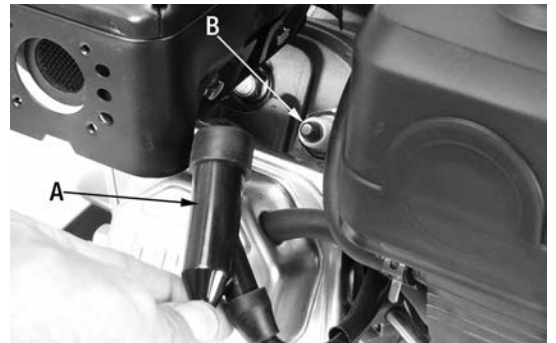

Figure 13
- 1) Dismantle the spark plug cap (A) Fig.13 by pulling it off the spark plug (B). Using the supplied spark plug wrench, undo the spark plug by turning counterclockwise.